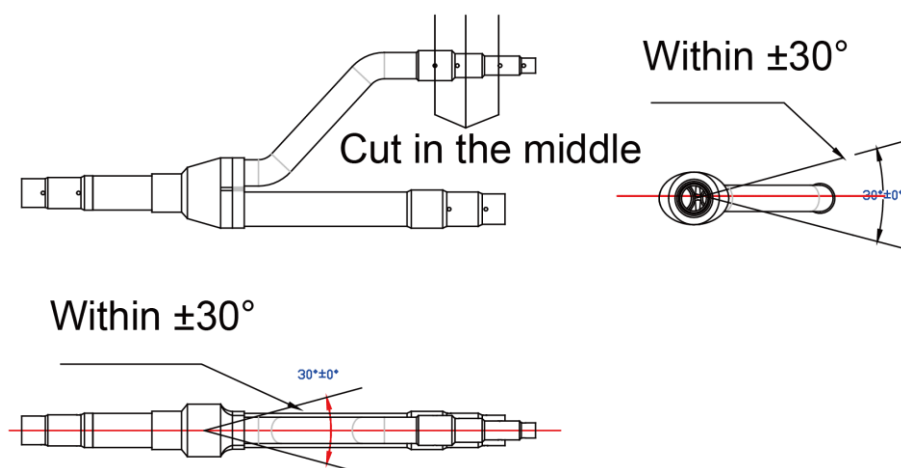

Fig. 19
(2) Y-type branch has several pipe sections with different dimension, which facilitates to match with various copper pipes. Use pipe cutter to cut in the middle of the pipe section that is of proper dimension and remove burrs as well. See Fig. 19.
(3) Y-type branch must be installed vertically or horizontally.